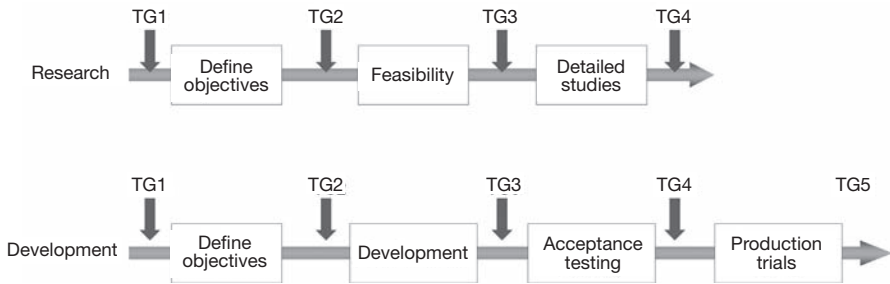

Figure 7.1 Example gate processes for research and development
To illustrate this better, it is worth looking more closely at ‘gates’ and then comparing them with milestones so that you can understand the important differences. Figure 7.1 shows examples of both a research and a development-style gate process.
At any of the toll gate (TG) points, there is a list of criteria that need to be met in order for the project to continue. Figure 7.1 shows how research projects have different generic stages in their life compared to development projects. They will also have different criteria applied at the decision points. At these points, the individual project will be reviewed against a set of criteria that evaluate different things (eg forecast return on investment, client acceptance of objectives, marketing agreement, completion of business case).